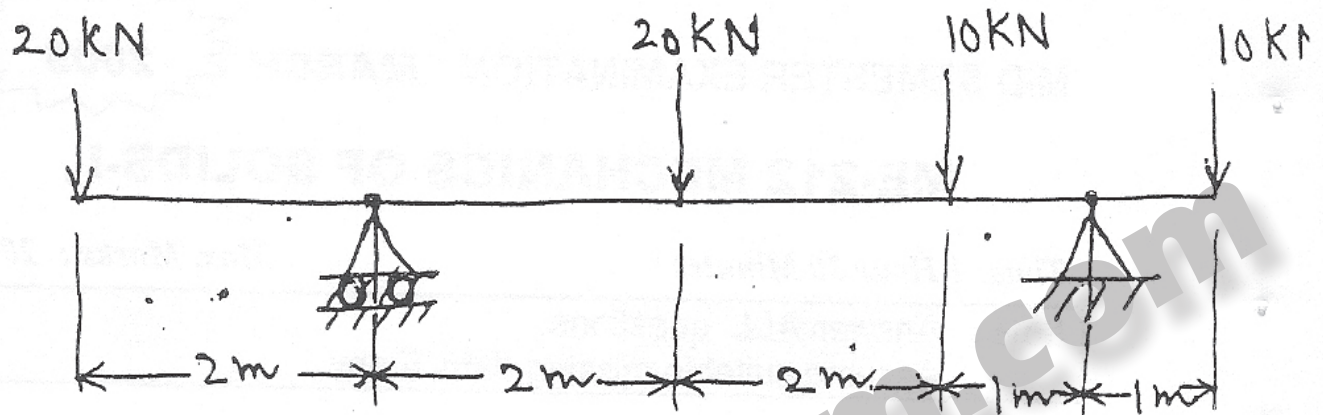

Fig. 2
- 3 Draw B.M. and S.F. diagrams for the overhanging beam shown in Fig.2. (6)
- [b] Determine the output voltage  $V_0$  and the power dissipated by the zener diode for the circuit shown in Fig.2. (2)
- 4[a] With the help of a neat circuit diagram explain the output characteristics of Common Emitter configuration of a transistor. (3)